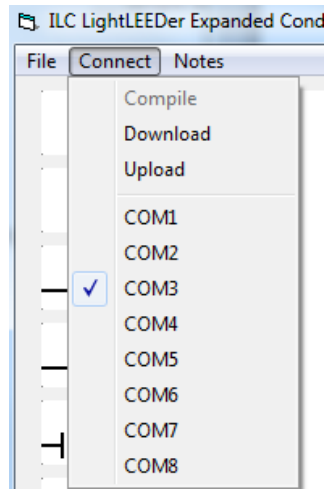
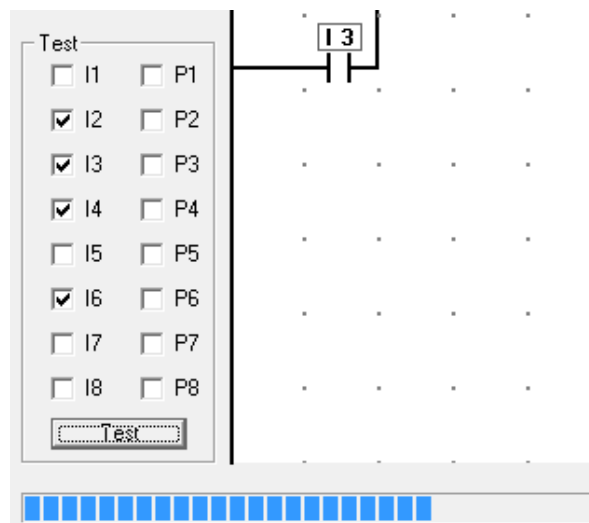

Figure 11 Connect Pull-Down Menu
Figure 12 Compile Progress Indicator
1. Select “Connect” pull-down menu as shown in figure 11, and then select the proper com port discovered in the procedure in section 2.1.
2. From the same “Connect” pull-down menu select “Compile”, you will see the status at the bottom of the screen as shown in figure 12 and a pop-up window will indicate completion.
1. From the “Connect” pull-down menu as shown in figure 11 select “Download” to send the programming to the module. Note: Be sure to follow the procedure in section 2.1 before attempting a download. Figure 13 shows the download progress window located in the upper right hand corner during the process.
1. From the “Connect” pull-down menu as shown in figure 11 select “Upload” to pull the programming up to the computer from the module. Note: Be sure to follow the procedure in section 2.1 before attempting an upload. Figure 12 shows the upload progress window located in the upper right hand corner during the process.